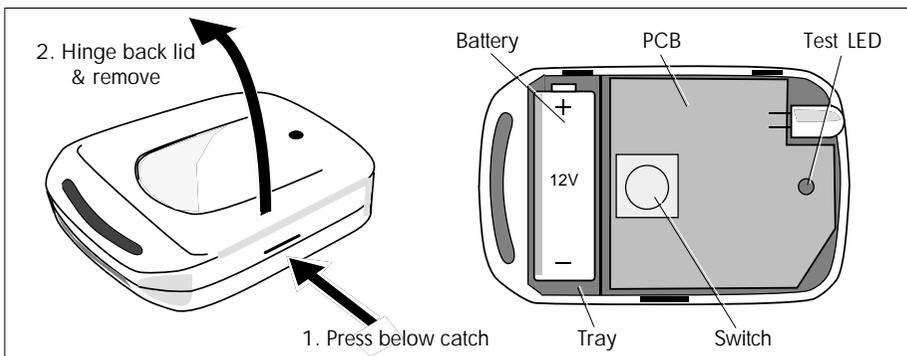

Figure 4-5 Security key — battery replacement
- 1 See Figure 4-5. Press just below the lid catch, hinge back the lid and remove it completely. The interior of the key is shown on the right of the figure.